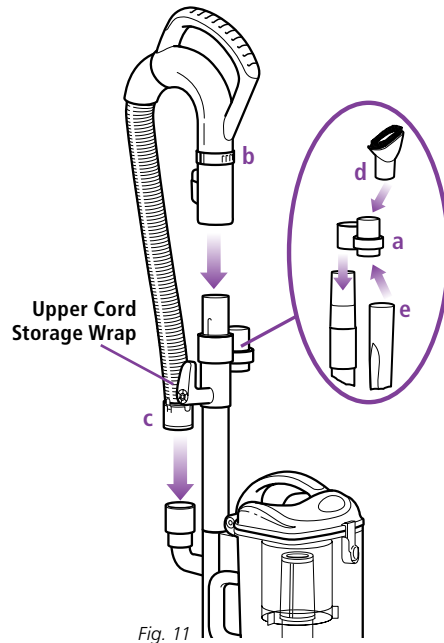

Fig. 11
- 4 Slide the accessory holder (a) positioned opposite the upper cord wrap, over the extension wand. Align the tab with the groove and push down. (Fig. 11)
- 5 Push the handle (b) onto the top of the extension wand until you hear it click into place. (Fig. 11)
- 6 Insert the end of the stretch hose (c) into the connector on the back of the *Lift-Away*® canister. (Fig. 11)
- 7 Store the dusting brush (d) and the crevice tool (e) on the mounts of the accessory holder. (Fig. 11)
- 5 **Due to the huge suction power of this vacuum, it may become necessary at times to adjust the suction release (c) on the handle. (Fig. 11) If the vacuum seems difficult to push or pull or if it is lifting up area rugs, adjust the suction release by rotating the collar 90° counterclockwise to open the valve. Rotate the collar clockwise to close the valve when you need high suction and for vacuuming floors.**